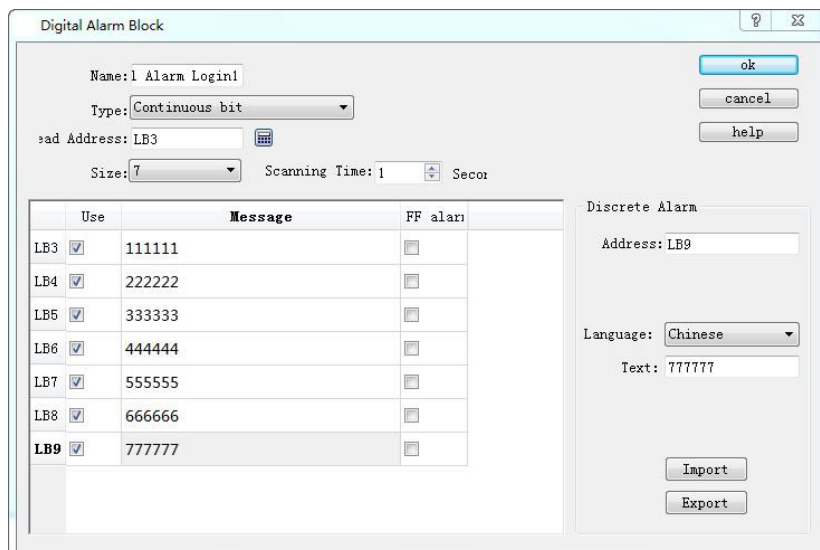

Figure 7-23 Select continuous digit
Double click the "digital alarm login" option to open the digital alarm settings dialog box, as shown in Figure 7-23:
- Click an item in the list box, and then move the mouse to the right of the "Message" module; input text information in the "Text" edit box serving as the alarm content. Here assume that the alarm messages are as shown in Figure 7-23.
- OFF Alarm: When this option is selected, the alarm will be generated when the corresponding address value is 0 (OFF value). Otherwise, an alarm will be generated when the address value is 1 (ON value). By default, an alarm occurs when the address value is 1 (ON).